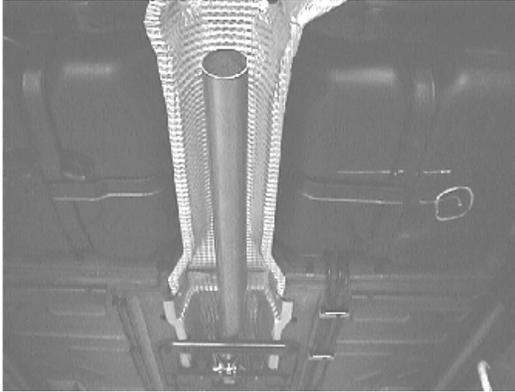

Figure 7
3. Place clamp on the expanded end of the intermediate pipe and install into position as shown in figure 7. **DO NOT** tighten the clamp.